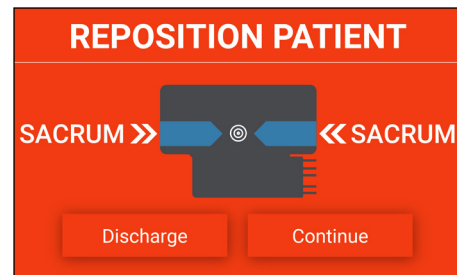

Figure 26. Patient not on bed enhancer alert screen
2. For the bed enhancer, follow the visual pictured on the screen and ensure that the patient's sacrum is aligned with the blue arrows on the side pillows. (Fig. 26)